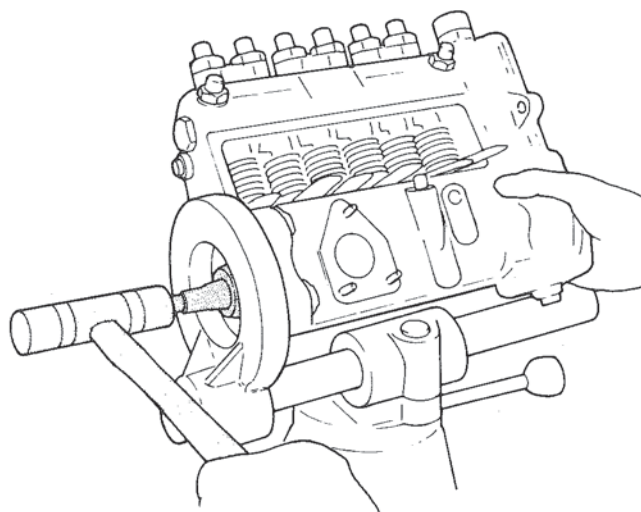

Figure 46. Installing Camshaft.
B. Install camshaft and center bearing so that set screw hole is lined up for bolt from bottom of housing. Figure 46.